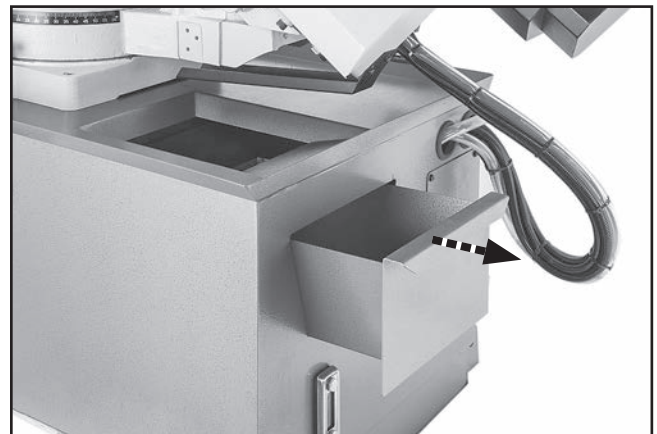

Figure 77. Removing chip collection drawer.
2. Remove chip collection drawer shown in **Figure 77**.